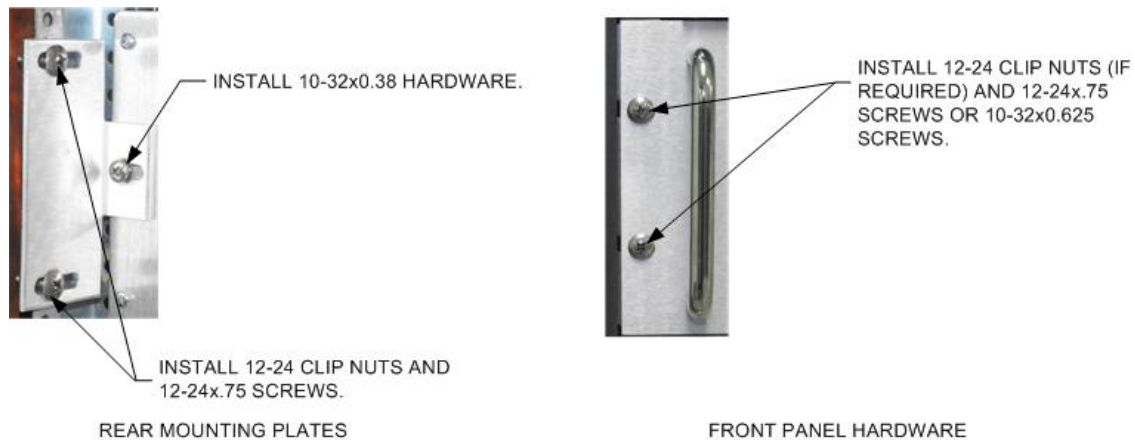

Figure 9. Rack Installation.
2. Refer to Figure 9 and install the unit in the rack using the mounting hardware located in the accessory kit.
3. Refer to Figure 9 and install the rear mounting plates as shown. If the rack is not equipped with rear rails, modify the rack to provide rear support.